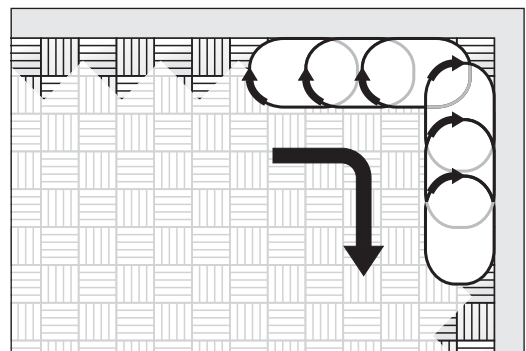

Fig. 14 ELAN with **short or long attachment**: Circular motions **clockwise**!
- Move the ELAN with **short or long attachment** in circular motions **clockwise** while sanding (fig. 14)!